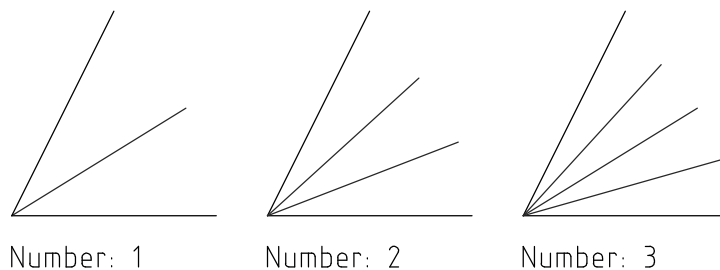

Figure 30: Construction of Bisectors.
1. In the options toolbar enter the length of the bisector(s), starting from the intersection point of the two lines. In the second text box, type the number of angle bisectors you want to create. The default is '1' but you can also create multiple bisectors as shown in Figure 30. To specify the length in the command line, enter `length`, `len` or `l`, followed by the length. To specify the number of bisectors in the command line, enter `number`, `num` or `n`, followed by the number.